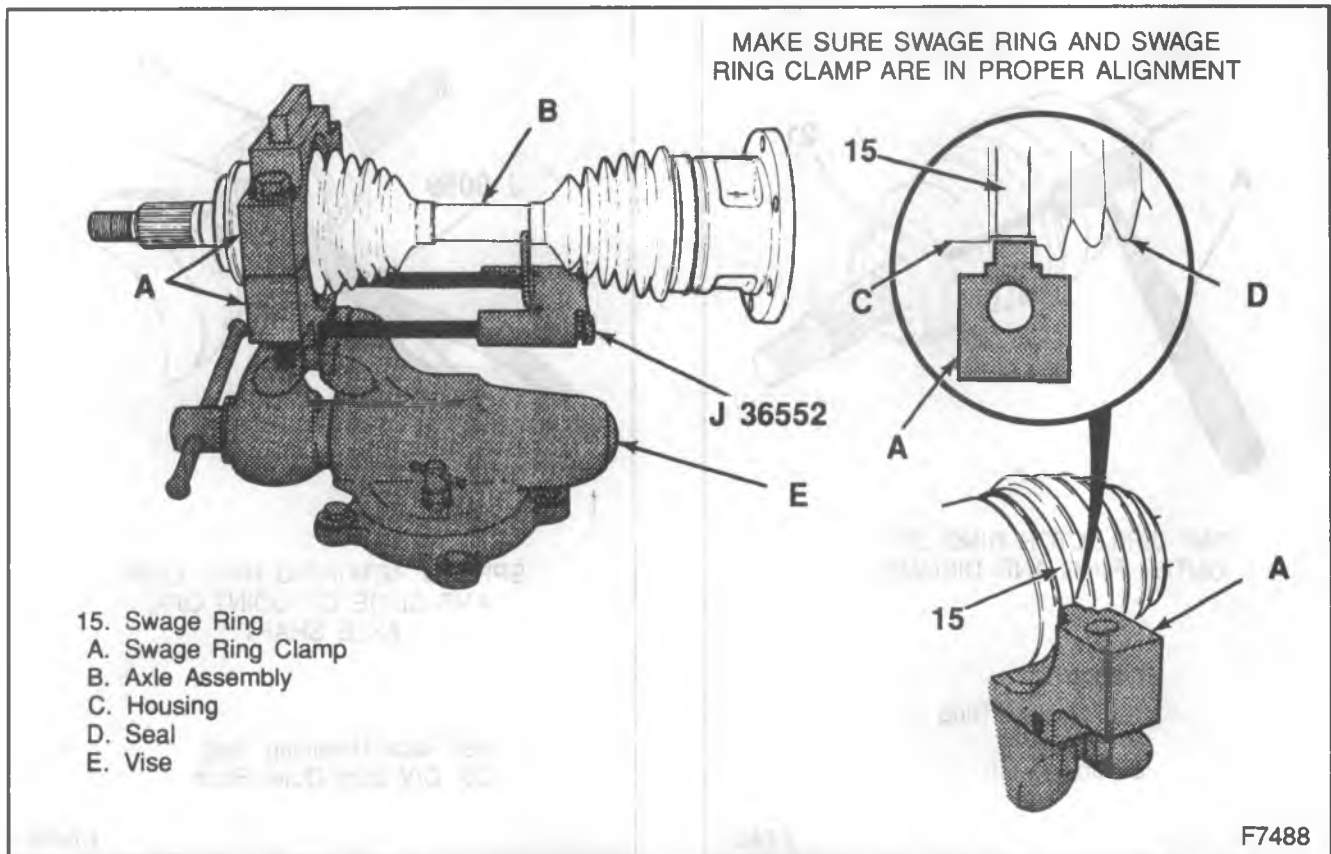

Figure 36—Installing Swage Ring
- Seal (14) must not be dimpled, stretched or out of shape in any way. If seal is **not** shaped correctly, carefully insert a thin, flat, blunt tool (**no sharp edges**) between large seal opening and outer race (20) at a maximum clearance of oval ring (15) to equalize pressure. Shape seal properly by hand and remove tool.
- Place top half of proper size tool on lower half of tool and check for proper alignment. (See Figure 36).
- Make sure that seal (14), housing (20) and swage ring (15) all remain in alignment. (See Figure 36).